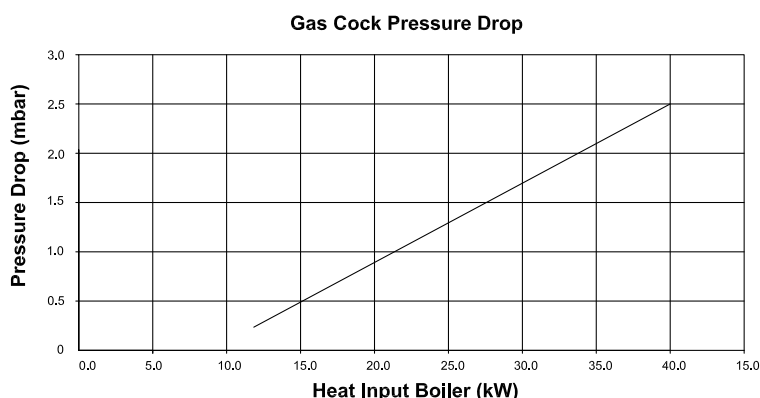

Fig.6
**This appliance is designed to work on a two pipe system as shown in fig.6.**